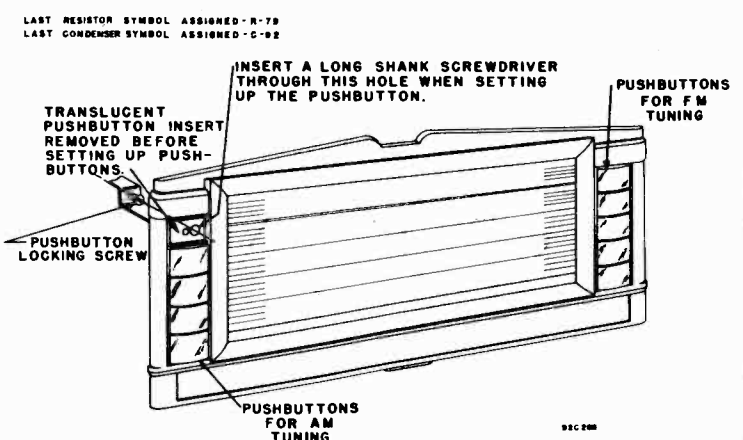

Fig. 1. View showing pushbutton setup.
3. Insert screw driver blade through large hole of pushbutton into slot of locking screw. (See Fig. 1).
I.F. (AM) 455 kc.
I.F. (FM) 10.7 mc.